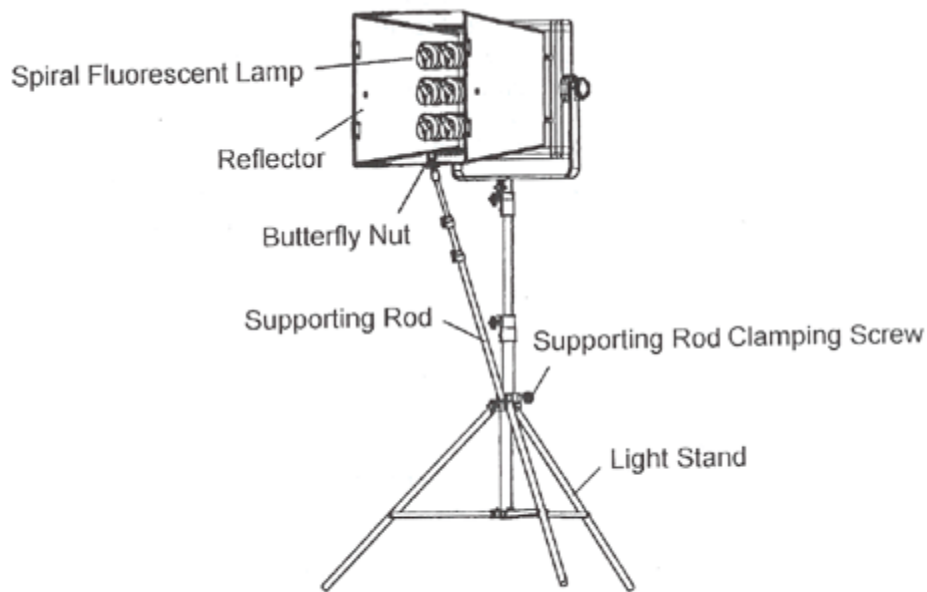

Fig. 2
c) **Installing the Supporting Rod (see Fig. 2)**